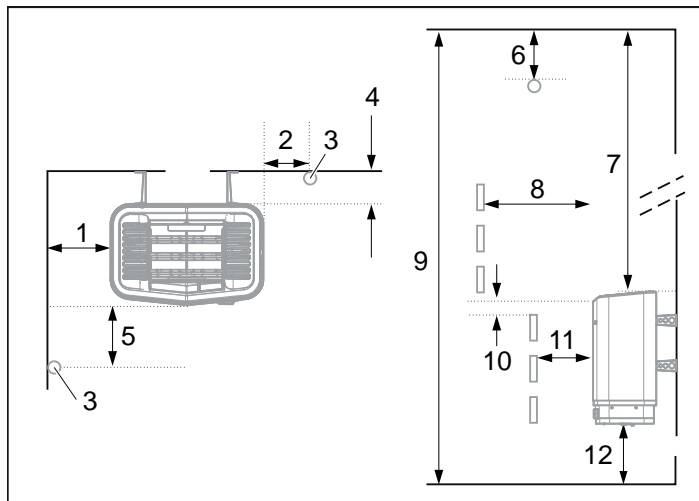
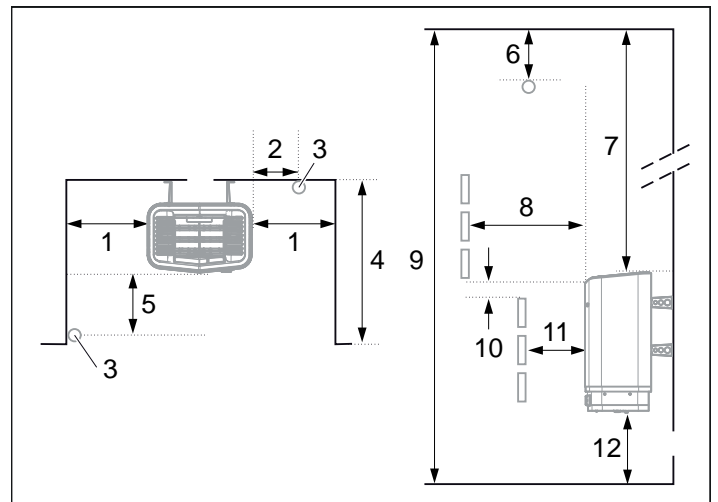

Figure 3: Positioning the heater - normal installation
Figure 5: Positioning the heater - recess installation
- Plan the sensor positioning (see Figure 3, page 8 and Figure 5, page 8).
- on the same wall as the door (or the side wall if very close to the door wall). The heater may also be placed in a recess (see Figure 5).
- Position the heater at a safe distance from the floor, side walls and interior fittings (see Figure 3).
Position the sensor according to the picture (see Figure 3).
1. Position the heater at a safe distance from the floor, side walls and interior fittings (see Figure 5).
2. Position the sensor according to the picture (see Figure 5).